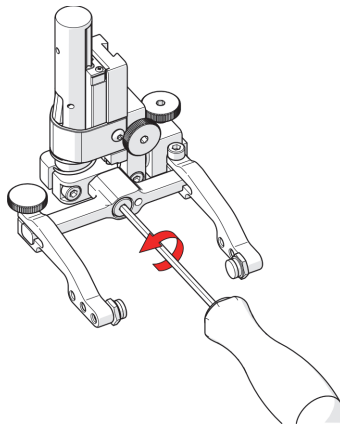

Figure 2-87 Unscrew yoke pivot screw
2. Using the supplied 3 mm hex driver, unscrew the yoke pivot screw and remove yoke (see Figure 2-87 on page 105).